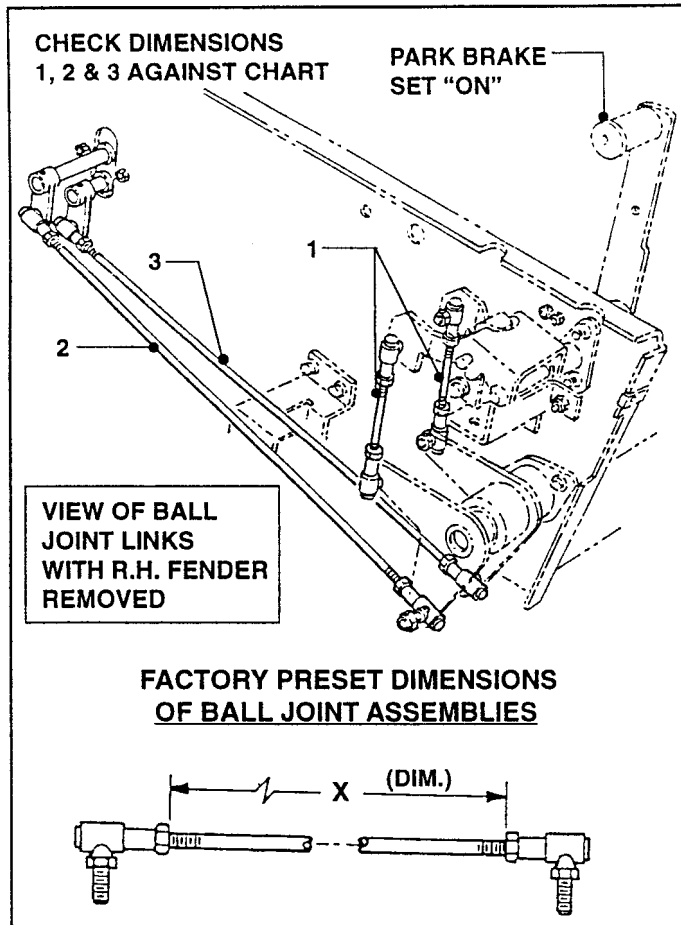

FIGURE 5.7
- B. Check the dimensions of the Ball Joint Links as shown in Figure 5.7.